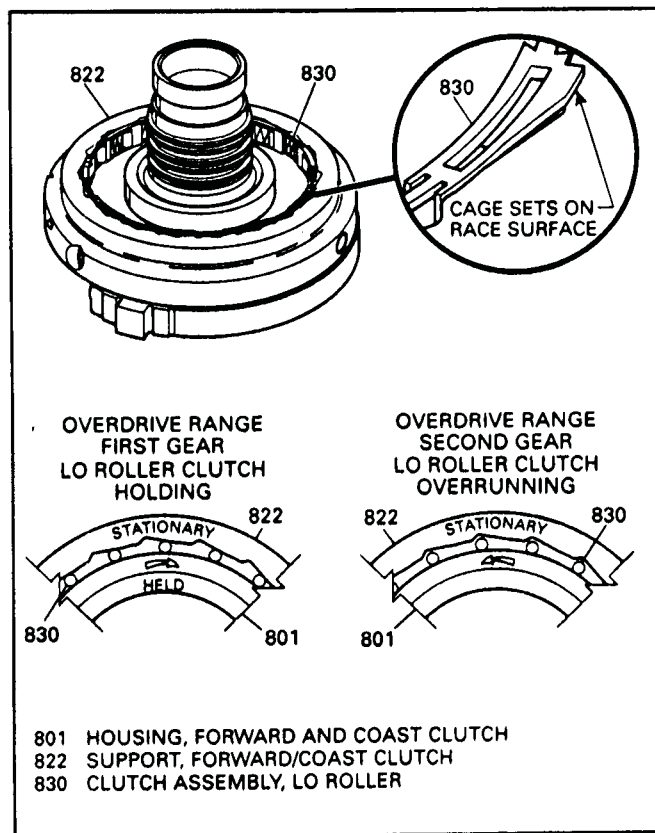

Figure 74
6. Install the low roller clutch assembly into the support as shown Figure 74.
7. Turn the cage of the low roller clutch assembly counterclockwise as far as it can go. The tabs on roller clutch cage must rest on the face of the outer race surface (See Inset Figure 74).
19. Install the forward/coast clutch housing onto the support using care not to damage sealing rings. You will have to rotate housing counterclockwise to engage the inner race on housing, into the low roller clutch (See Figure 74).